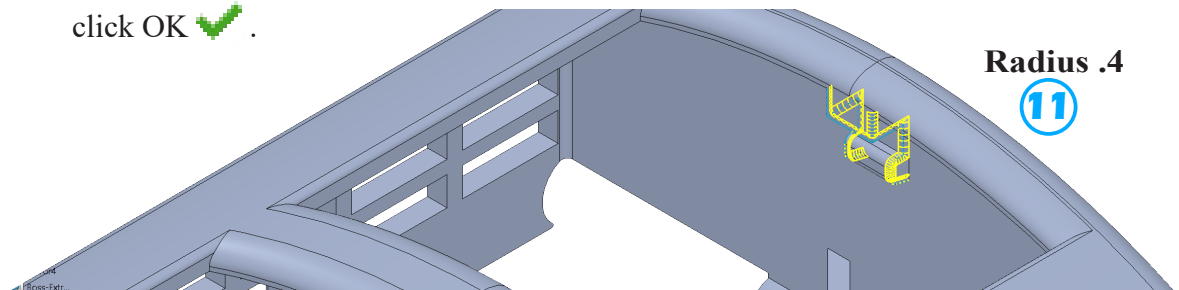

Fig. 155
- ⑪ Radius  .4
click side edges of rear panel catch (9), Fig. 155